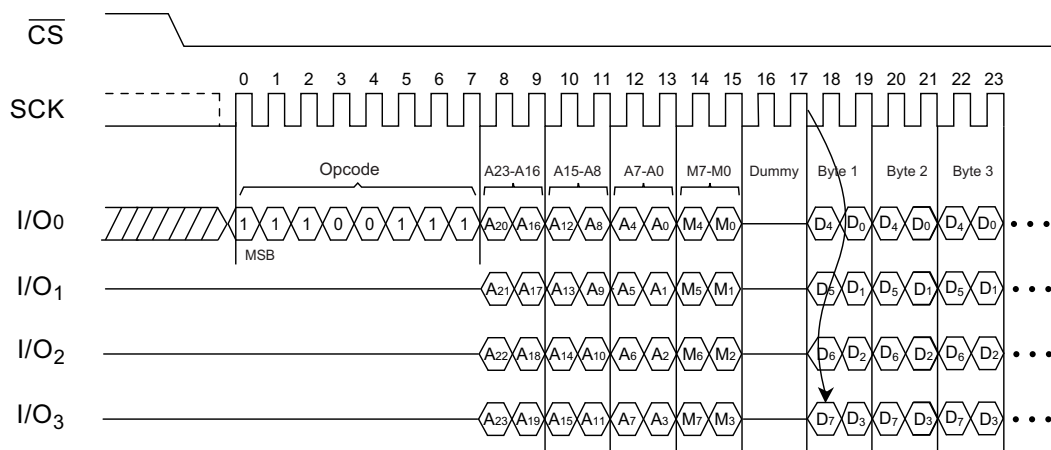

Figure 14. Quad I/O Word Fast Read Timing (Initial Command Set M5, M4 ≠ 1,0) SPI Mode
The Quad I/O Word Fast Read command is similar to the Quad Fast Read command, except that the lowest address bit (A0) must equal 0 and have two dummy clock cycles. Figure 14 shows the command sequence; the first byte addressed can be at any location. The address is automatically incremented to the next higher address after each byte of data is shifted out. The Quad Enable bit (QE) of the Status Register (S9) must be set to enable.